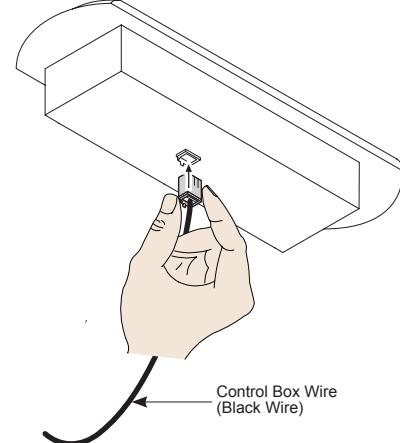

Figure 5 - Control Panel
- 1 Insert the wire connector into the back of the control panel (Figure 5).